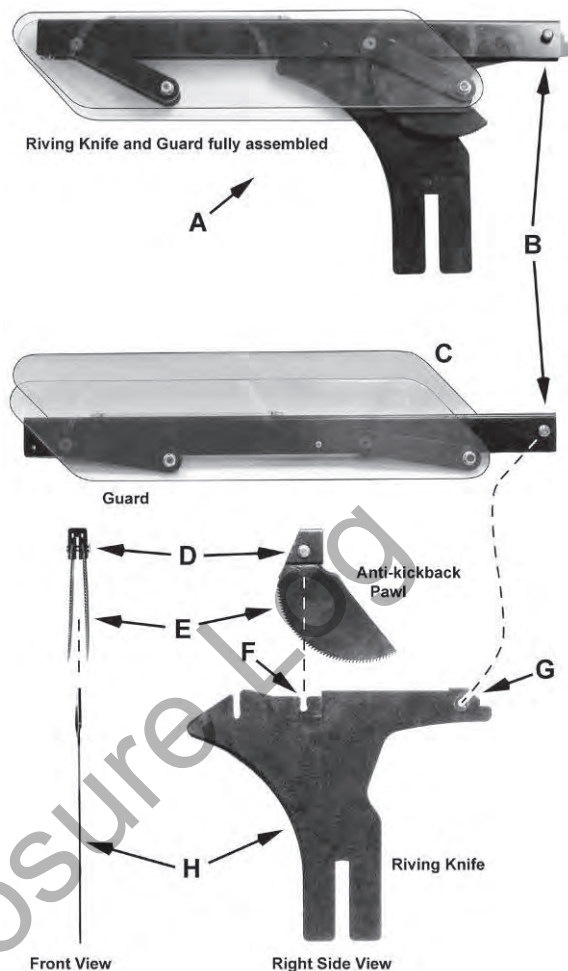

Figure 9
Referring to Figure 9:
Referring back to Figure 9:
1. Remove the *guard* and *pawl* (Figure 9, Items C, E).